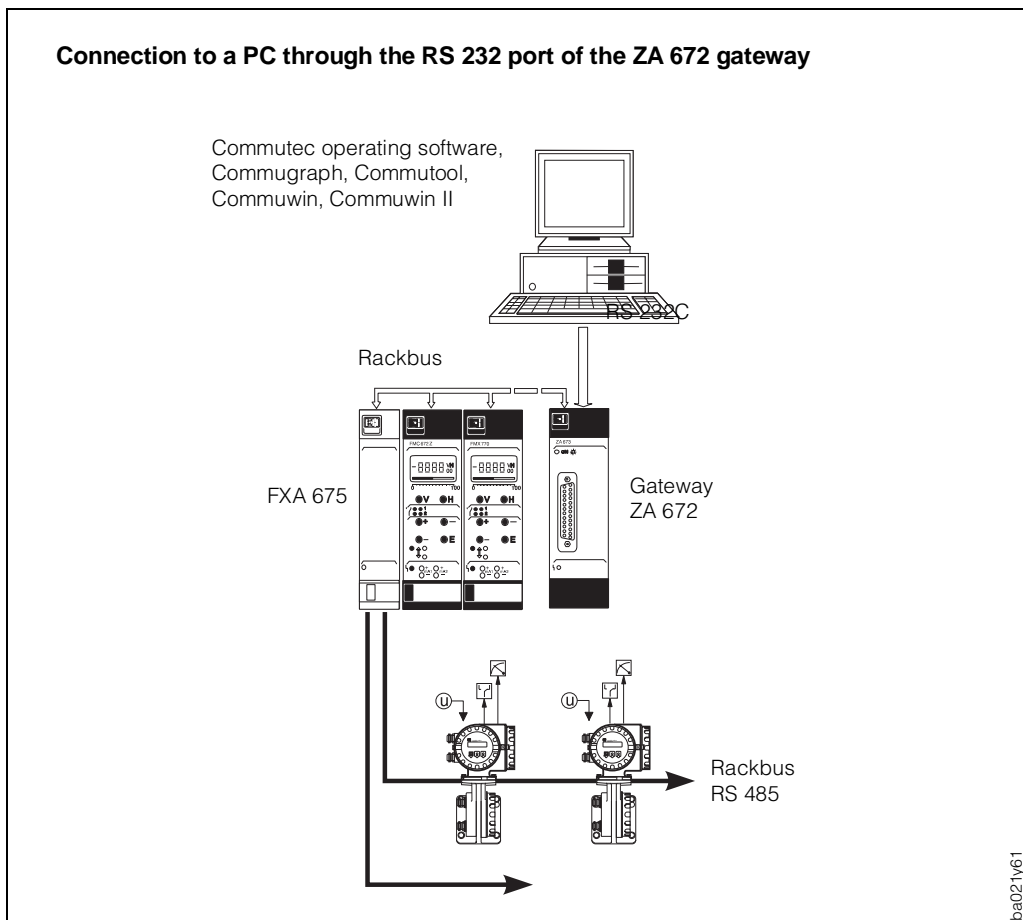

Fig. 39
- indirect connection to a supervisory bus system via an FXA 675 interface card and MODBUS, PROFIBUS or FIP gateway (see Fig. 39).